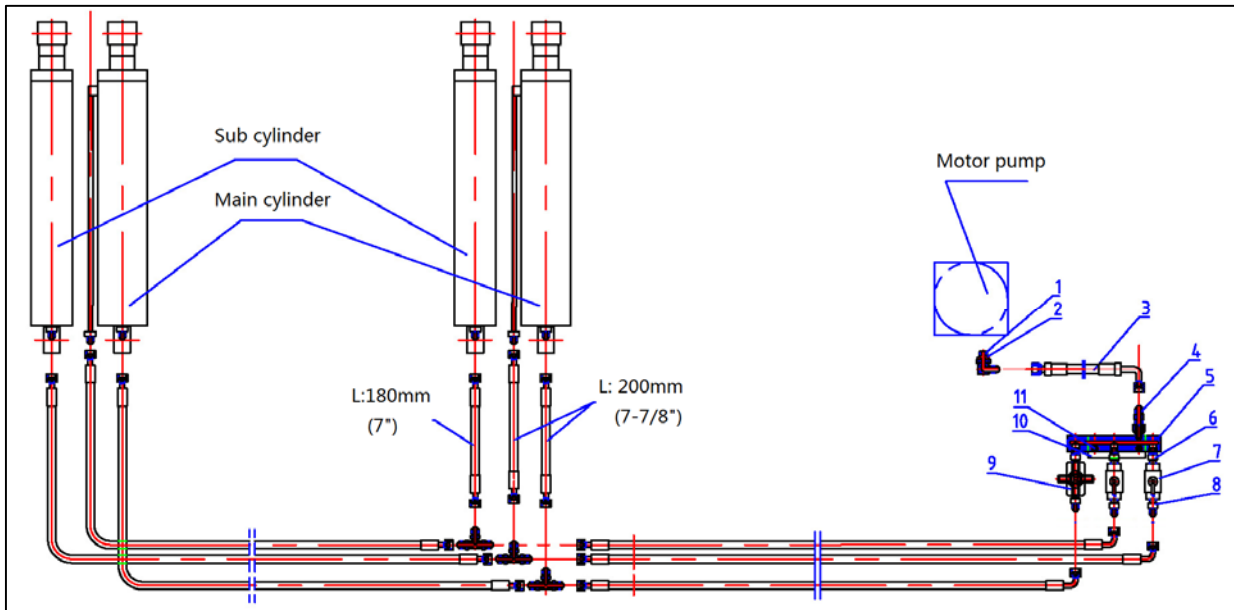

Fig. 9
2. Connect the oil hoses according to Fig. 9 .